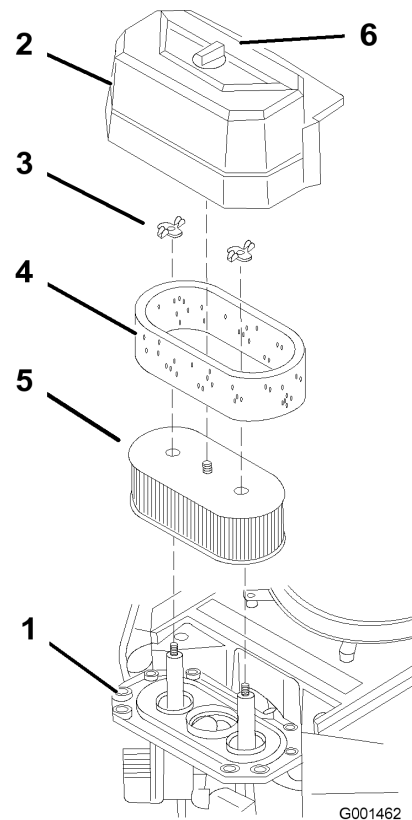

Figure 18
3. Clean around the air cleaner to prevent dirt from getting into the engine and causing damage (Figure 18).
4. Unscrew the cover knob and remove the air cleaner cover (Figure 18).
5. Remove the 2 wing nuts and remove the air cleaner assembly (Figure 18).
6. Carefully pull the foam element off the paper element (Figure 18).
1. Do not clean the paper filter. Replace it after 200 operating hours (Figure 18).
1. Carefully slide the foam element onto the paper air cleaner element (Figure 18).
- Place the air cleaner assembly onto the air cleaner base and secure it with the 2 wing nuts (Figure 18).
- Place the air cleaner cover into position and tighten the cover knob (Figure 18).